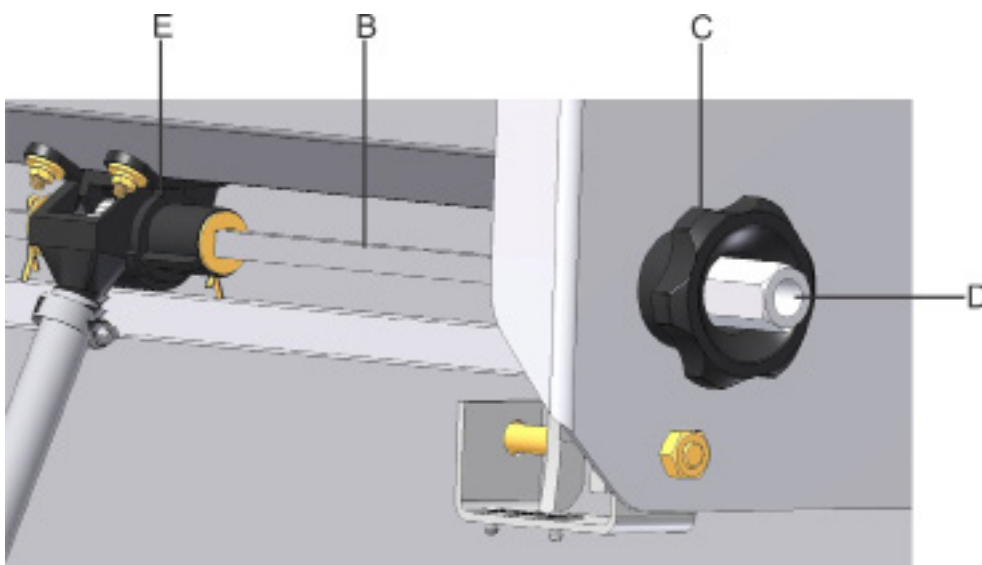

fig.17
The setting procedure is performed by displacing the axle (B) (Fig. 17) increasing or decreasing the work opening of the rotors within the feeder kit (E) through the knob (C). To start the setting loosen the nut (D) (fig.17) after the metering of seed chosen; lock the system tightening the nut (D).